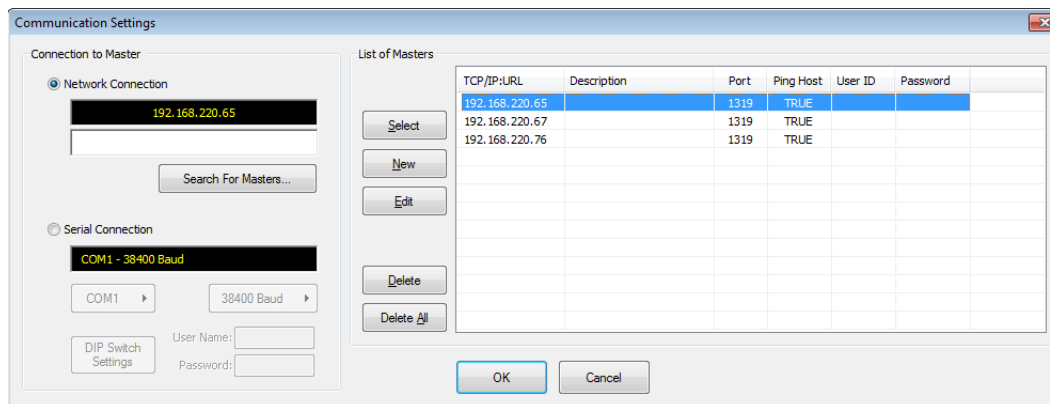

FIG. 28 Communications Settings dialog
1. Open RPLoader and click **Communications Settings** to open the Connect to Master dialog (FIG. 28).